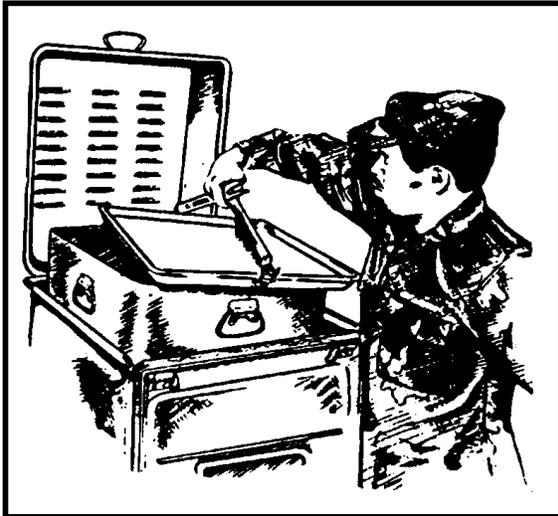

Figure 2-5. Removing sheet pan from baking and roasting pan.
- a. Position the M2 burner unit and pan in the range for baking. (See Figure 2-5.)
- (1) Use the baking rack set.
- (2) Use the baking and roasting pan.
- b. Position the M2 burner unit and pans for roasting. (See Figure 2-5.)
- (1) Place the M2 burner unit in either the top or bottom position.
- (2) Place the baking and roasting pan on top of the range.
- (3) Cover the pan if using the moist-heat method.
- (4) Close the door, the lid of cabinet, and the slide shutter.